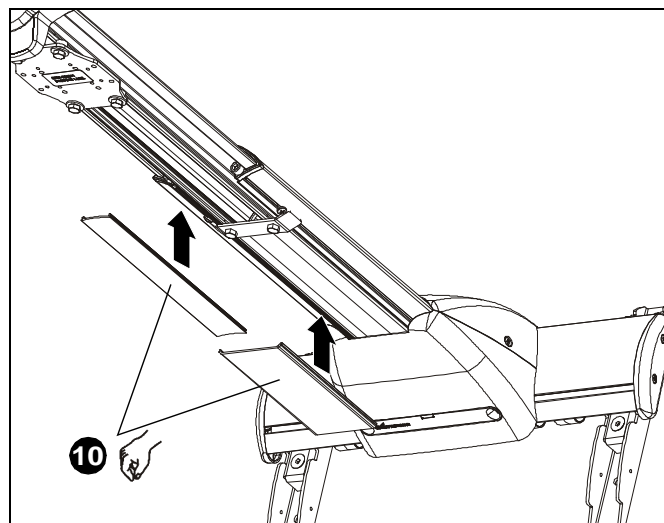

Figure 60
10. Replace removed cable management covers (if necessary). Insert one side of cover into groove and press firmly on the cover on the other side until it snaps into the other groove. (See Figure 60)